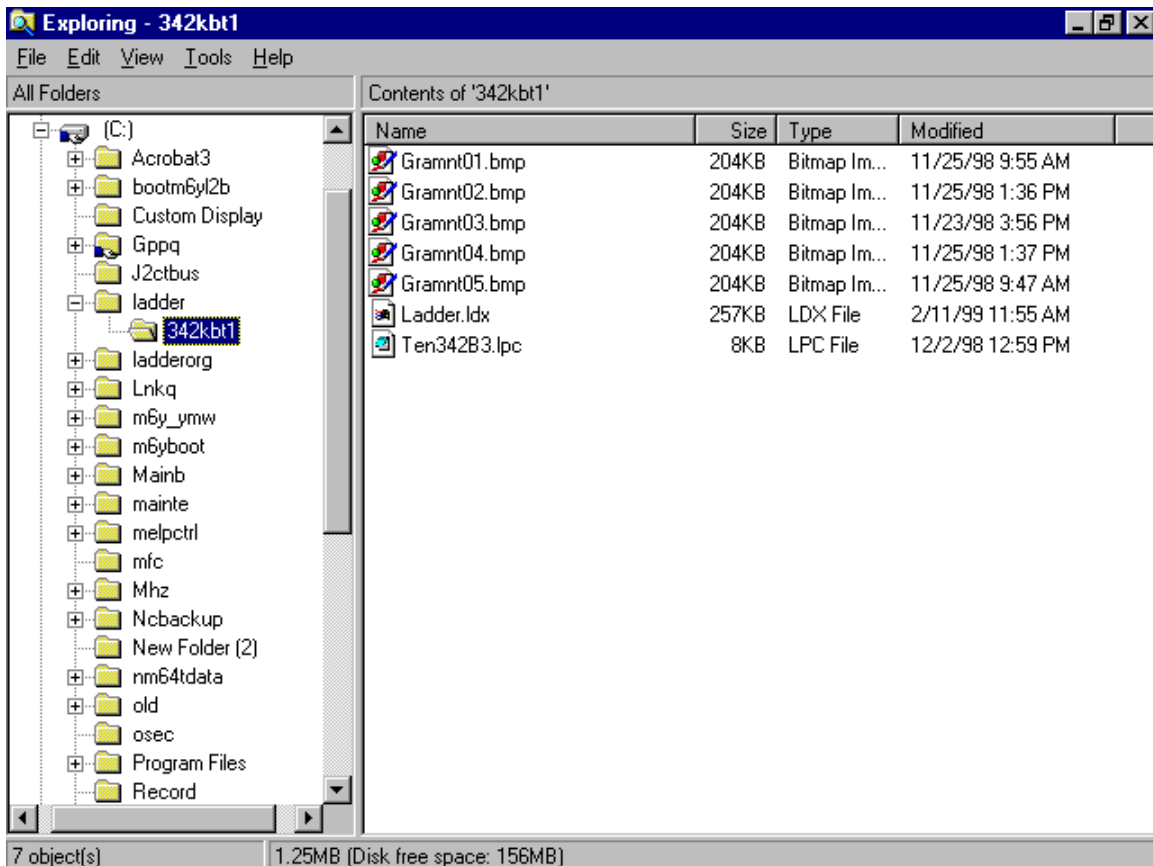

Figure 1.
3) Now that everything is backed up, insert the floppy diskette with the update on it. Go to Windows Explorer and create a folder with same version of plc you are updating in the c:\ladder folder. For example, if you were sent files 342KBT1.ldx, 342B3.lpc, and many *.bmp files, create 342KBT1 folder under it. The results will be as shown in figure 1. when done: